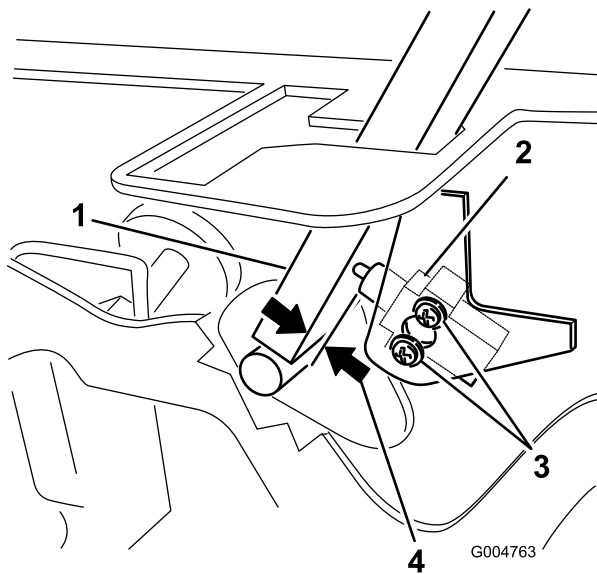

Figure 39
3. Loosen the 2 screws securing the interlock switch (Figure 39).
4. Holding the control lever against the frame, move the switch toward the lever until the distance between the lever and switch body is 0.4 to 1 mm (0.015 to 0.045 inch) as shown in Figure 39.